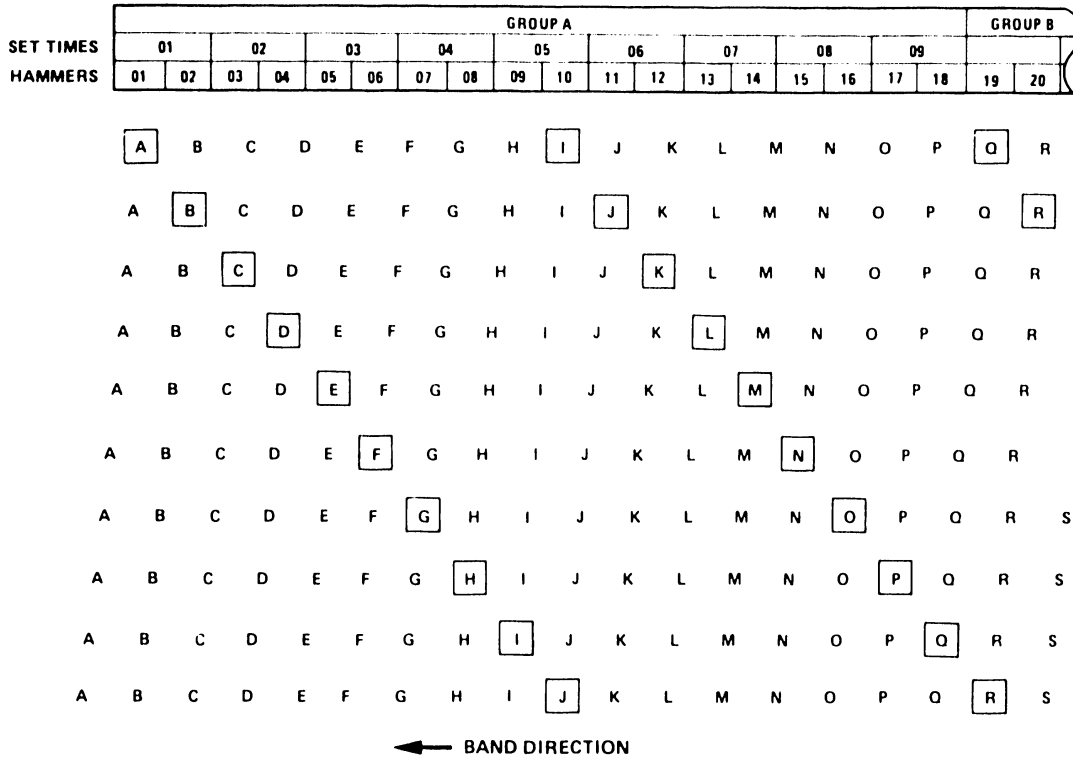

Figure 2-58. 600 LPM and 1000 LPM Physical Relationship of the Band Column and Hammer
2. Compare - With a one-to-one hammer to print column relationship, the odd and even columns that align can both be printed. Two clocks located in the Processor CCA working registers are used to keep track of the odd and even Hammer Driver CCAs and the set number for the first and second aligning columns respectively. **Figure 2-58** illustrates the physical relationship of the band columns and hammers.